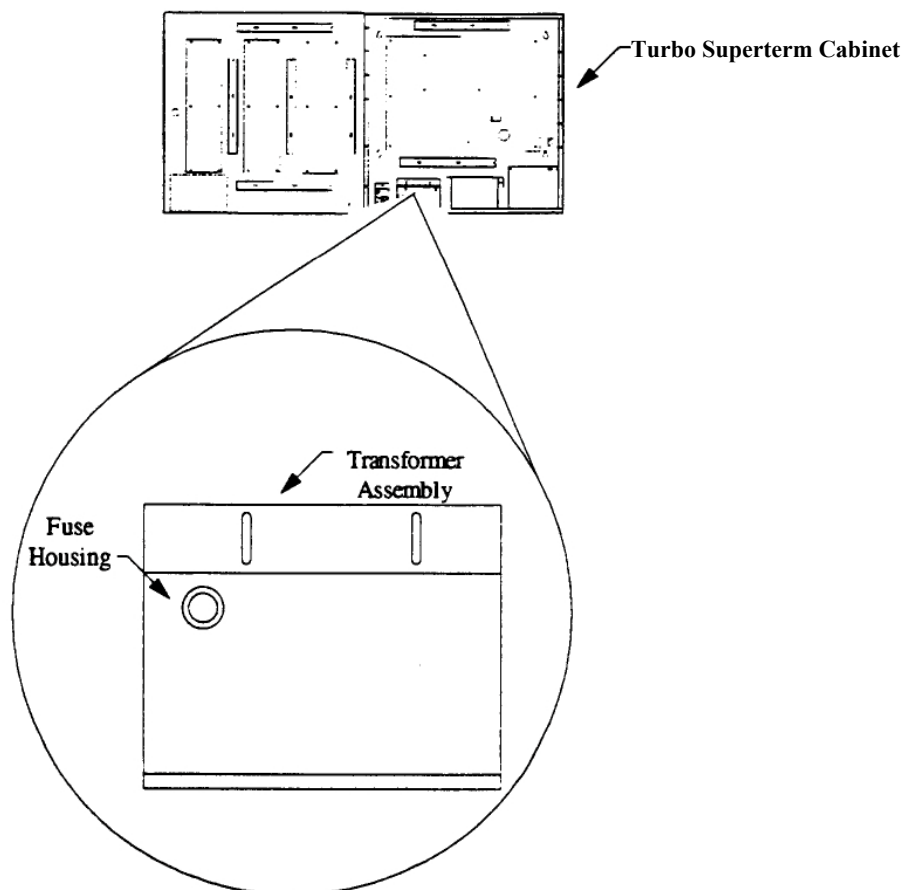

Figure 59 - Service Entrance Fuse Replacement
1. Open the Turbo Superterm cabinet and locate the transformer assembly secured to the lower left-hand ledge of the Turbo Superterm cabinet (see Figure 59).